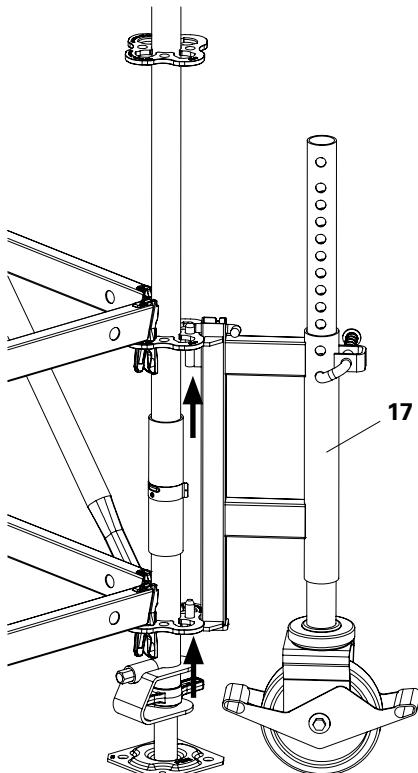

Fig. B1.04
2. Peg the tube on the Transportation Wheel UEW (17), depending on the extension length of the Base Spindle.
- Fig. B1.04 + B1.04a